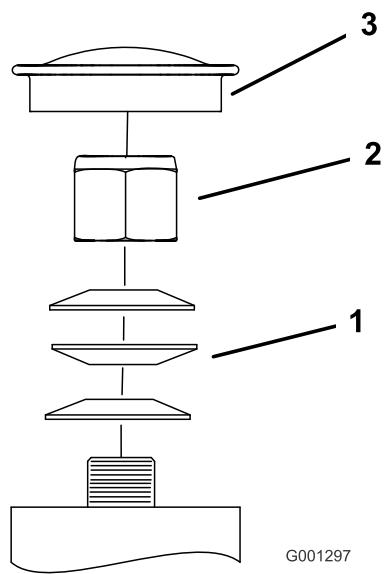

Figure 71
3. Remove the dust cap from caster and tighten the locknut (Figure 71).
4. Tighten the locknut until the spring washers are flat, and then back off a 1/4 turn to properly set the preload on the bearings (Figure 71).
**Important:** Make sure that the spring washers are installed correctly as shown in Figure 71.
5. Install the dust cap (Figure 71).